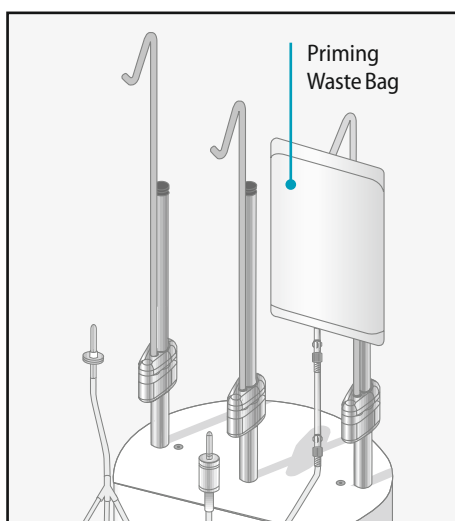

Figure 3.3: Attach Priming Waste Bag to bag hanger
1. Attach the Priming Waste Bag to the right hand bag hanger on the instrument as shown (see Figure 3.3).